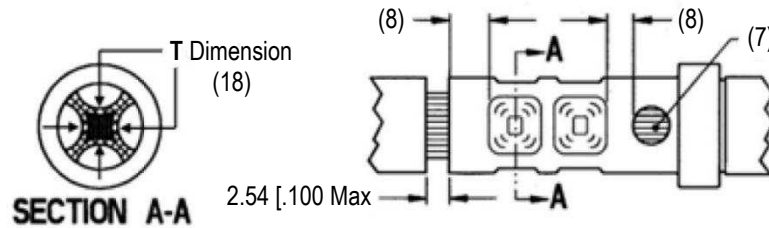

Figure 3
- (14) N/A
- (15) 0460-204-12• comes in NICKEL plate only. Use 0460-220-12• for GOLD plate.
- (16) See page 5 for contact part numbers and tooling specifications.
- (17) 0460-010-20• and 0462-005-20• are identified by one purple stripe on the crimp barrel.
- (18) T dimension horizontal or vertical after crimping (see Figure 3) may be larger or smaller than values listed for “GO” or “NO-GO” gage pins. This varies with wire size and “springback”.
- ◆ Added Footnote (19) describing PN's 2325529-1, 2325584-1, 2325531-1, and 2325530-1
- ◆ Added Figure 3 designation and reference in applicable paragraph